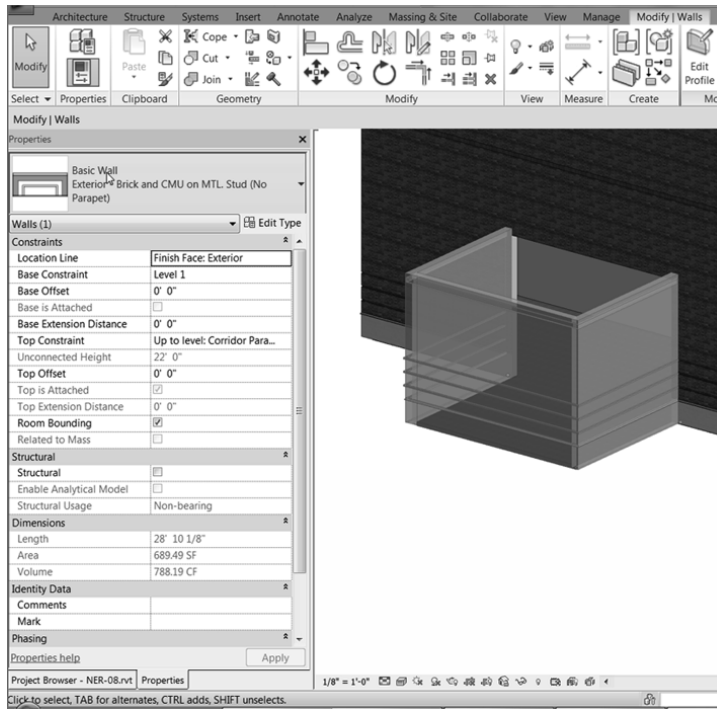

FIGURE 7.46: Changing the wall types as you have been doing all along
2. Select the three walls that compose the jog in the south wall (see Figure 7.46).
3. From the Properties dialog box, switch these walls to Exterior – Brick And CMU On MTL. Stud (No Parapet), as shown in Figure 7.46.